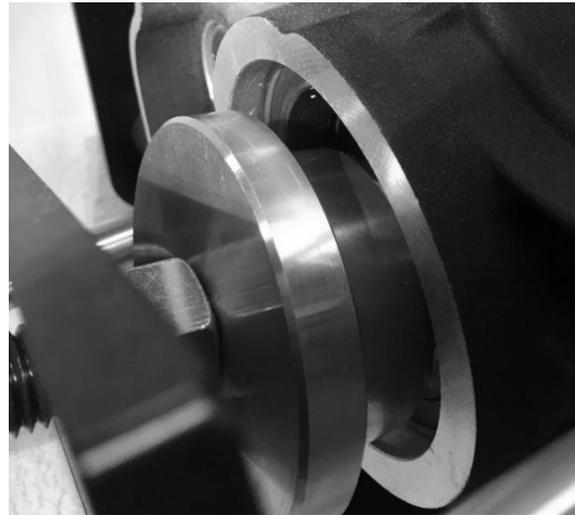

FIGURE 19 | TAPERED BEARING ADAPTER VISUAL INSPECTION
- Remove the installation tool. You will know the tapered bearing adapter is seated into the bore when the beveled retaining ring groove is fully visible and the retaining ring fully seats into the groove; see figure 19.